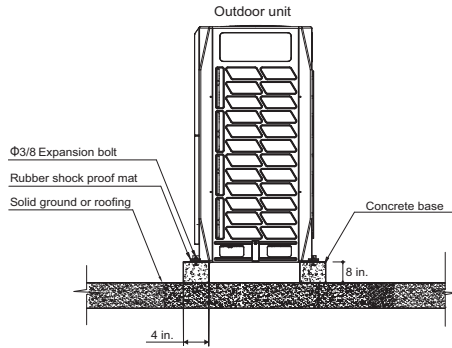

Fig. 9 —Concrete Base (Side View)
- When piping from the bottom of the unit, the base height should be no less than 8 inches. See Fig. 9 and 10 for additional specifications.